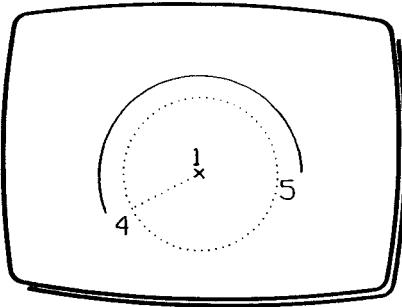

Fig 4
- 3 Press and release L or R to locate the centre point (1) in Fig 4. Press and release T when found.
- 4 Select the COMPASS ARC symbol from the palette. As before, a dotted cursor indicates the radius and arc of a circle centred on (1) in Fig 4.
- 5 Move XY to position the end of the radius at (4) in Fig 4.
- 7 Move XY to position the end of the radius at (5) in Fig 4.